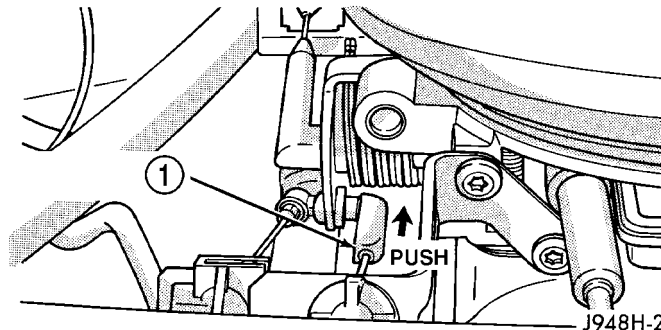

Fig. 5 SERVO CABLE AT THROTTLE BODY - 5.9L GAS
(1) Disconnect negative battery cable at battery.
(2) Remove air intake tube at top of throttle body.
(3) Using finger pressure only, remove speed control cable connector at bellcrank by pushing connector rearward off the bellcrank pin (Fig. 5). **DO NOT try to pull connector off perpendicular to the bellcrank pin. Connector will be broken.**
(4) Squeeze 2 tabs on sides of speed control cable at throttle body mounting bracket (locking plate) and push out of bracket.